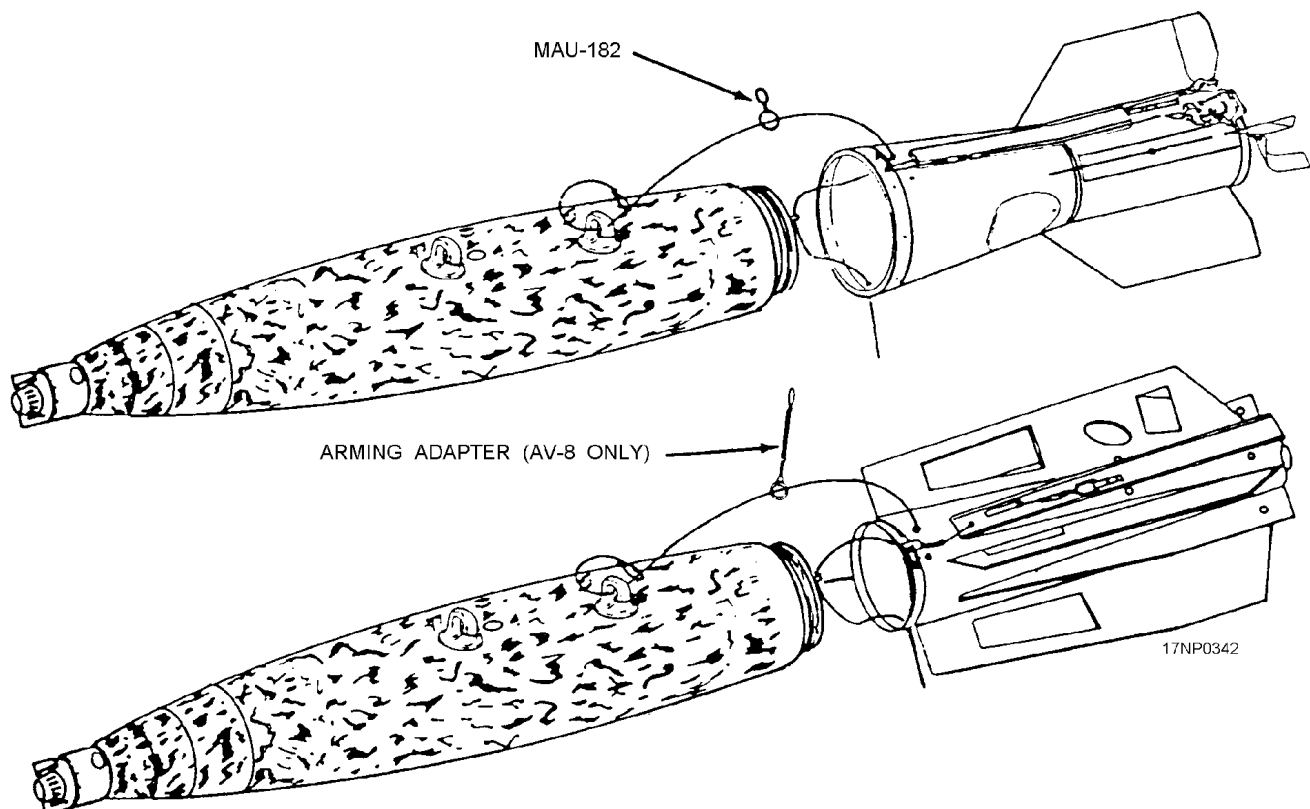

Figure 13-10.—Mk 3 arming wire and swivel loop installation.
1. Attach arming wire to aft lug (fig. 13-10). Thread free end of Mk 3 arming wire from aft bomb lug through MAU-182 swivel ring and arming wire hole in top of fin.